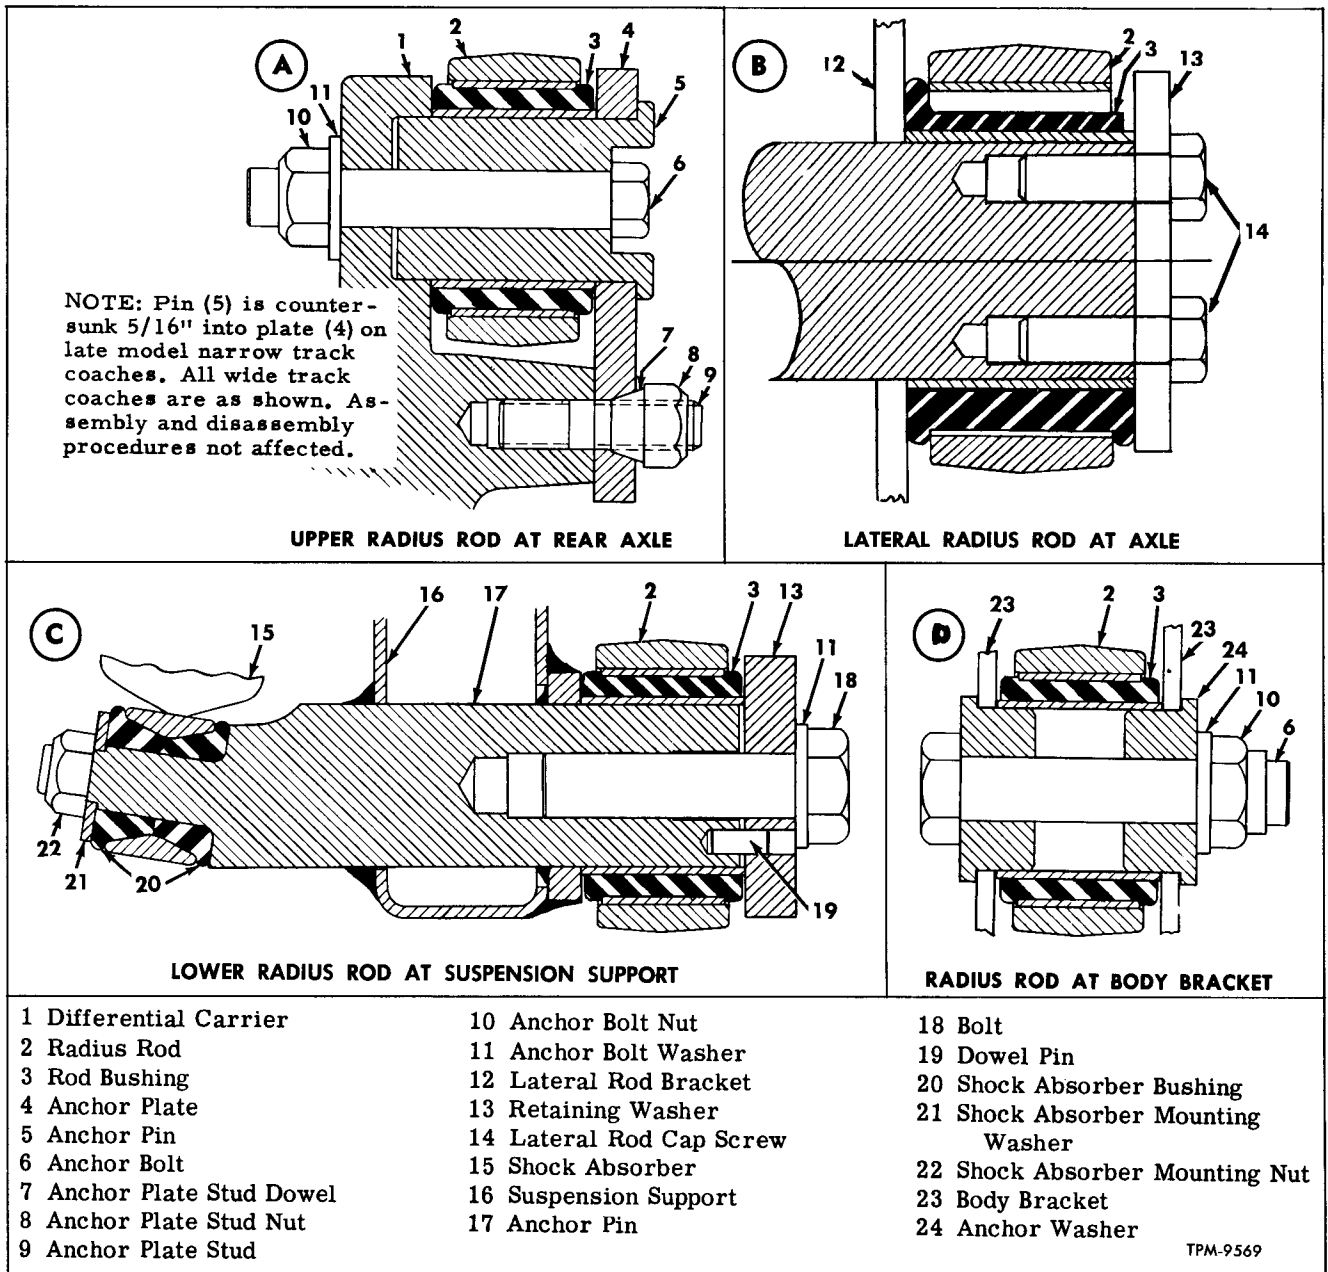

Figure 11—Radius Rod End Mountings
Rear axle upper and lower radius rods are all interchangeable, and front axle lower radius rods are interchangeable. Radius rods are not interchangeable, however, between front and rear axles. Radius rod connections at axle and at body are illustrated in figure 11. These connections are typical for both front and rear rods.
RADIUS ROD REPLACEMENT (Fig. 11)
1. Disconnect Radius Rod at Body (All Except Front Lateral). Remove nut from anchor bolt (D, fig. 11). Remove anchor bolt and anchor washers.
2. Disconnect Front and Rear Lateral Radius Rod at Axle and Front Rod at Body. Remove two cap screws and washer. Pull radius rod off anchor pin (C, fig. 11).
3. Disconnect Lower Radius Rods at Axle. Remove bolt and washer. Remove large washer from dowel pin. Pull radius rod off suspension support (C, fig. 11).
axle by following step 1 (D, fig. 11) above. To disconnect rear radius rod at axle, remove two anchor plate stud nuts and two anchor plate stud dowels (A, fig. 11). Remove anchor bolt nut and anchor bolt washer. Remove anchor bolt, anchor pin, anchor plate, and radius rod.
6. Connect Lower Radius Rods at Axle. Place radius rod end over anchor pin. Position large washer and install bolt. Tighten bolt finger tight (C, fig. 11).
7. Connect Upper Radius Rod at Axle. Position upper radius rod in front axle bracket and on anchor pin at body end (after installing spacer) and install anchor washers, anchor bolt, and anchor bolt nut (D, fig. 11). Tighten nut finger tight.
Connect upper rod at rear axle as follows: Place anchor plate over studs in differential carrier (A, fig. 11). Attach with two anchor plate stud dowels and two anchor plate stud nuts. Leave nuts loose. Position radius rod end and insert anchor pin and anchor bolt. Install anchor bolt washer and nut. Leave nut loose.
8. Connect Radius Rod at Body (All Except Front Lateral). Place end of radius rod in position. Install anchor washers, anchor bolt, anchor bolt washer, and anchor bolt nut (D, fig. 11). Tighten nut finger tight.
already on anchor pin, position washer and install two cap screws. Tighten cap screws finger tight (B, fig. 11).